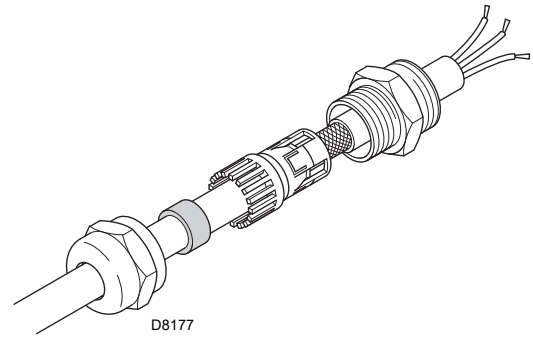

Fig. 7
- perform the shielding as illustrated in Fig. 7;